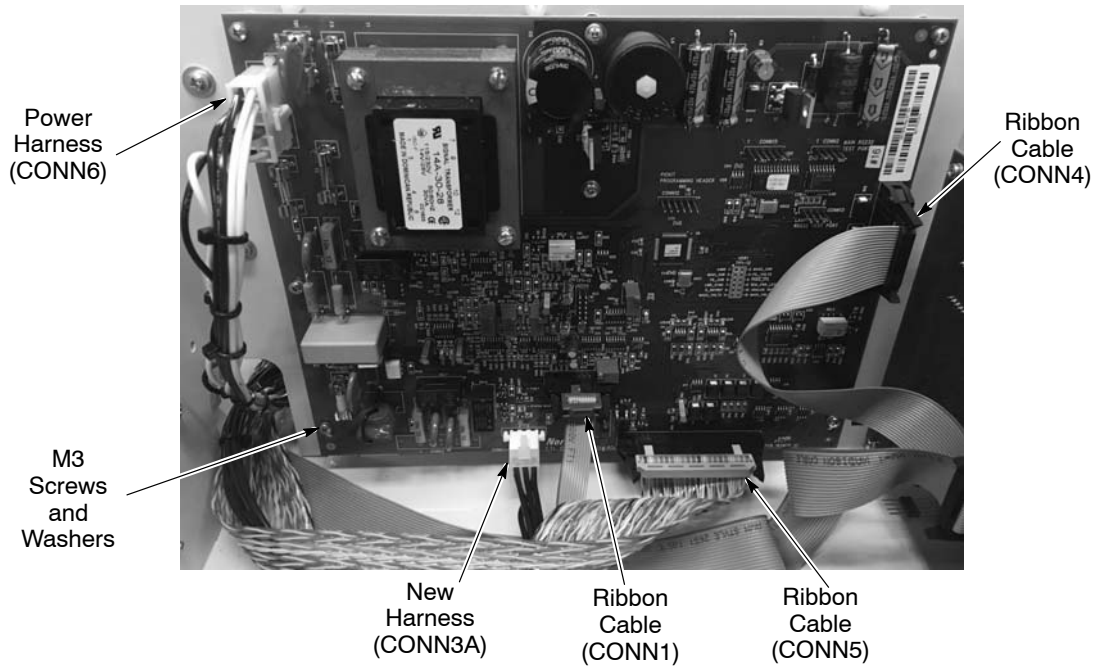

Figure 11 Board Connections and Mounting (shown with newest version of board)
2. See Figure 11. Reinstall main control board using six screws and washers.